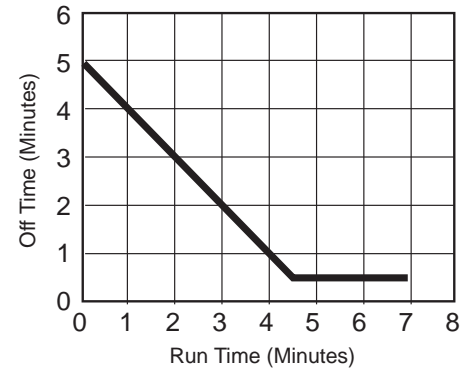

Figure 1: Smart Reset Well Recovery Time
- Dry well conditions – with smart pump monitoring (see Figure 1, pg. 10)